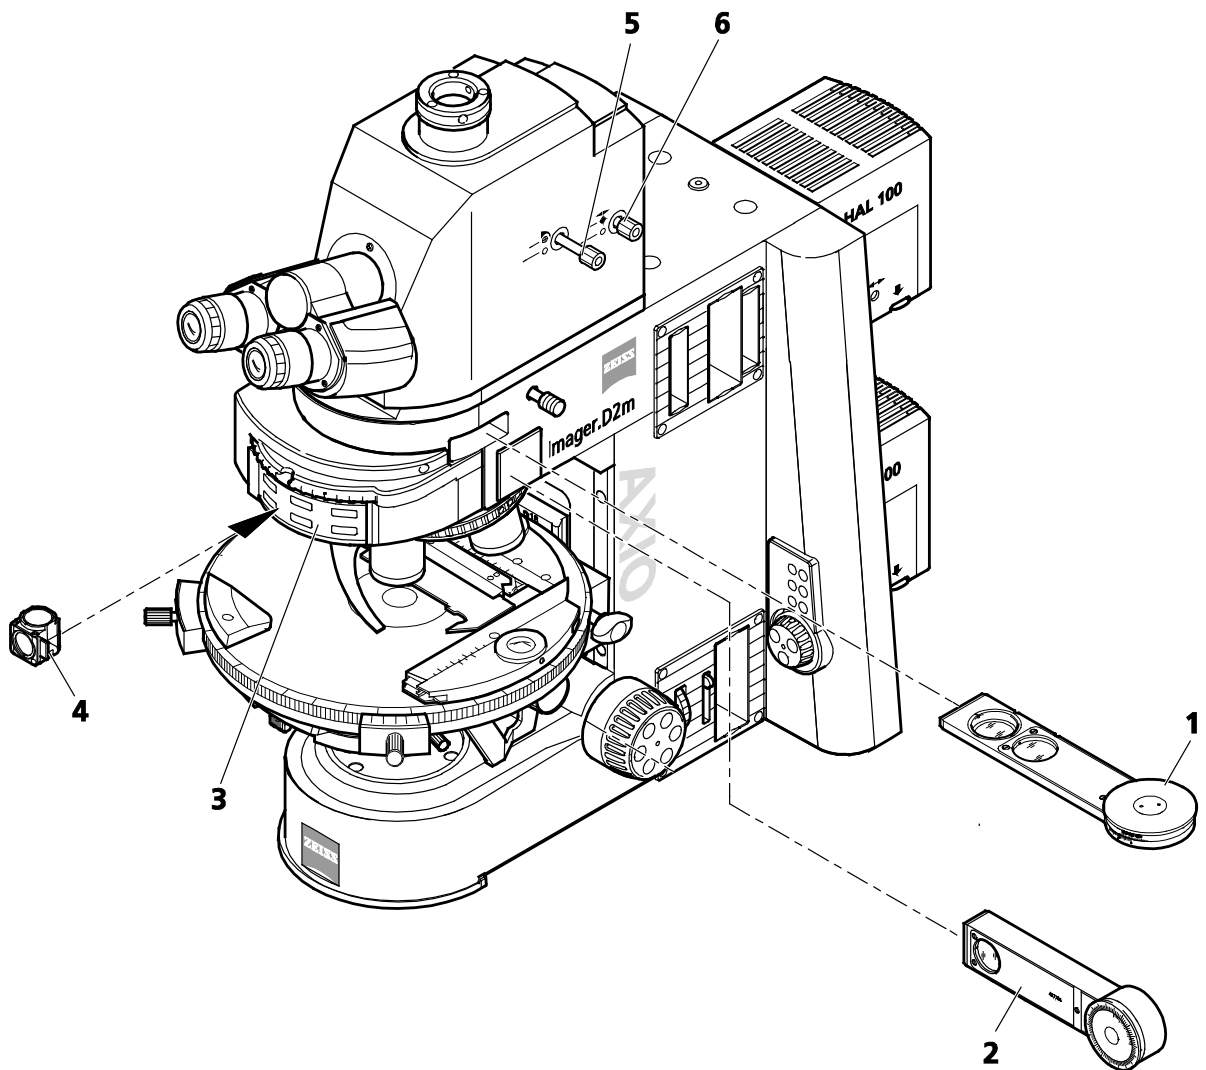

Fig. 212 Components for reflected-light polarization
(3) Setting reflected-light polarization
- On the reflector turret (Fig. 212/3), swing the reflector module DIC P&C (Fig. 212/4) into the light path. You may also swing in reflector module Pol P&C and insert the analyzer slider in the corresponding slot. When using the combination of analyzer slider (Fig. 212/1) and polarizer slider (Fig. 212/2), you may also push these into the corresponding slots. If you use the fixed versions of these sliders, the polarizer is oriented EAST-WEST and the analyzer NORTH-SOUTH.
If the microscope is equipped with the phototube Pol, the following settings are required for this contrast method: The Bertrand lens must be inactive (rear push-pull rod (Fig. 212/6) on right side pulled out). The luminous-field diaphragm must be open (front push-pull rod (Fig. 212/5) turned counterclockwise as far as it will go). The crossline reticle must be inactive (front push-pull rod (Fig. 212/5) pulled out).